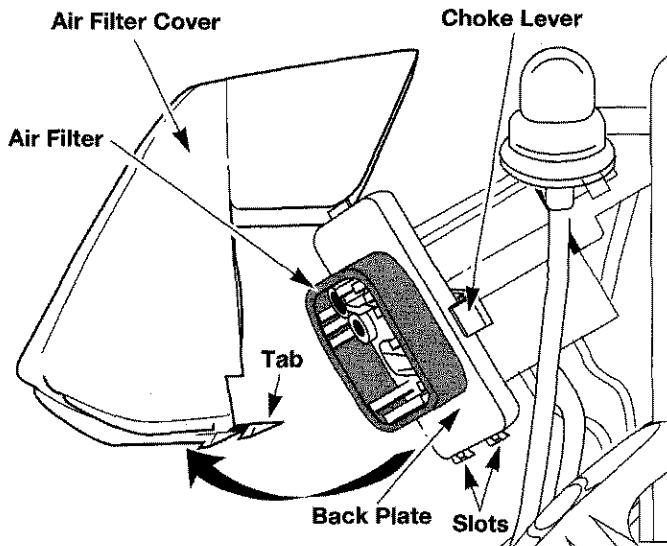

Fig. 25
1. Place the choke lever between the RUN (B) position and the START (A) position (Fig. 25).
2. Remove the air filter cover by pulling up the two tabs on the bottom back of the cover, then pull out and up (Fig. 25).
3. Remove the air filter (Fig. 25).
8. Reinstall the air filter cover by positioning the notch on top of the air filter cover onto the tab at the top of the back plate. Be sure the choke lever in the **RUN (B)** position (Fig. 25).
9. Using two fingers on either side of the air filter cover and back plate, squeeze together until the cover snaps into place (Fig. 25).